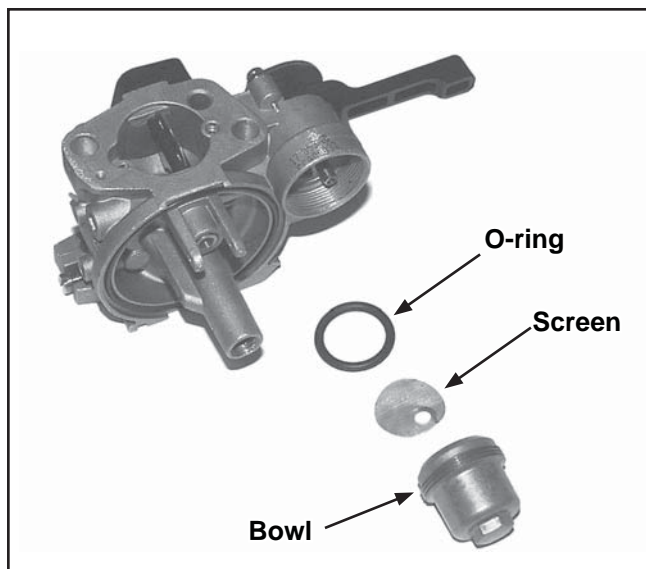

Figure 5-14. Fuel Shut-Off Bowl, Screen, and O-ring.
4. Remove the fuel shut-off fuel bowl, screen, and O-ring. See Figure 5-14.
10. Install the fuel shut-off screen and O-ring and install the bowl onto the fuel shut-off assembly. See Figure 5-14.